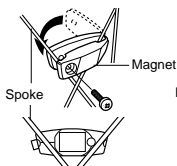

Fig. 14
- Attach the magnet on the right spokes of the front wheel. The spokes must run correctly through the inside of the magnet as in Fig. 14.